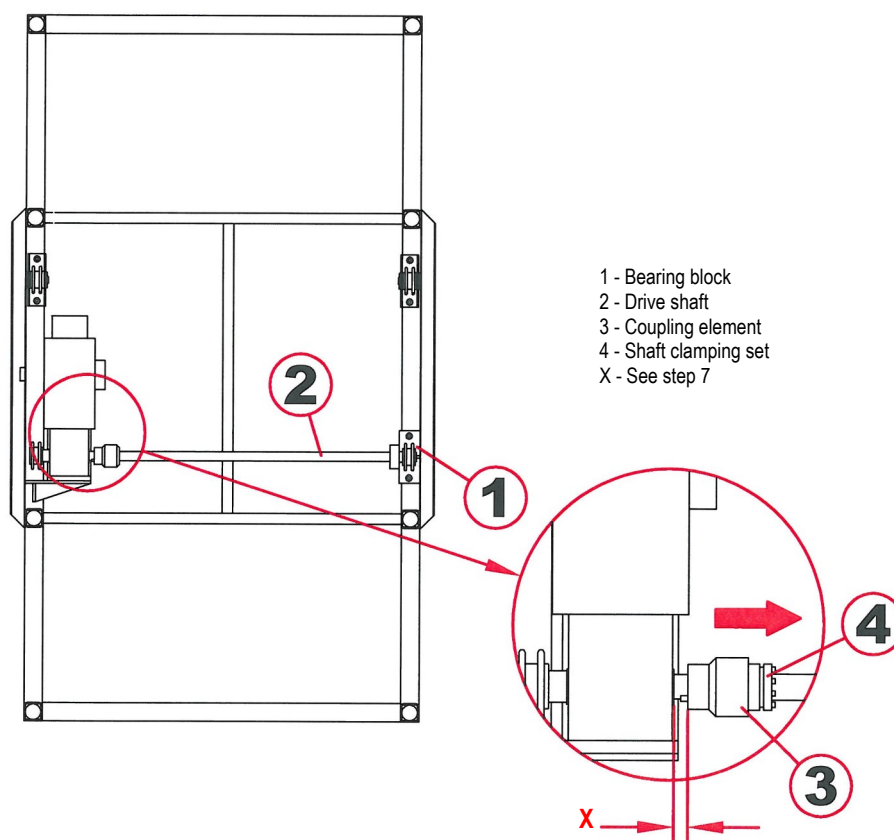

Fig. 3: Remove vertical shaft
1	Release and remove the 2 socket head cap screws DIN 6912-M16x30 (40) of the bearing block [1] (see Fig. 3). Also remove the drive chain on this side.
2	On the motor side, place a squared timber under the drive shaft [2] so that it does not fall over and fall down (see Fig. 3).